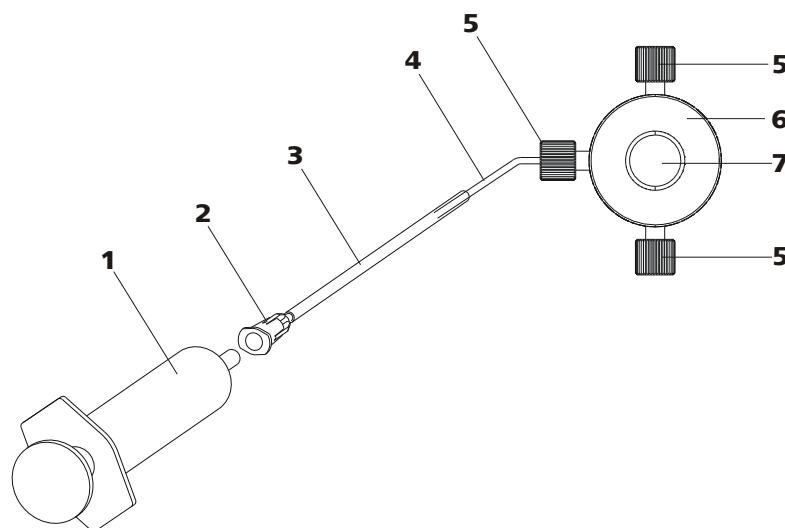

Figure 22 Deaerating the high pressure pump
Deaerate the high pressure pump as follows (*see Figure 22, page 33*):
- Insert syringe (22-1) in the Luer connector (22-2) of the purging needle (see Figure 22, page 33).